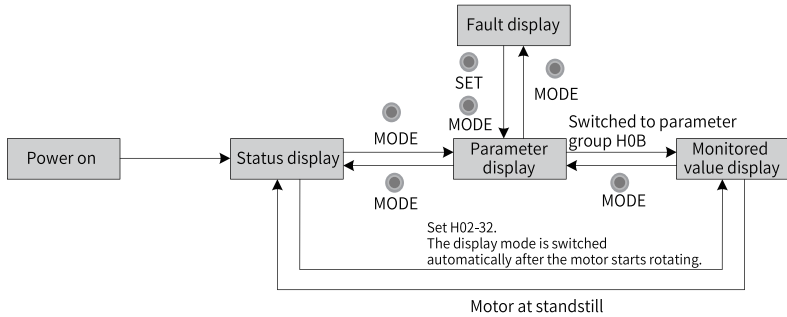

Figure 1-2 Switchover among different display modes
- Press MODE to switch among different display modes based on the conditions shown in "Figure 1-2" on page 11.